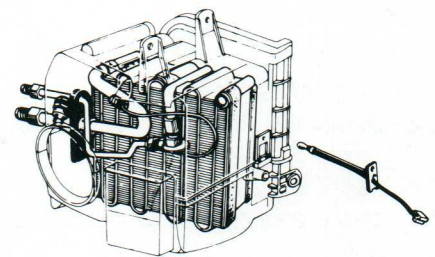

Figure 215-6
**Evaporator** (Figure 215-6): The last component in the cycle, and where we finally get around to cooling air. As the foggy mist of freon enters, the air passing over the evaporator fins gives up its heat to the evaporating freon. At the inlet the freon is warm liquid; at the outlet it has changed to a low-pressure gas.